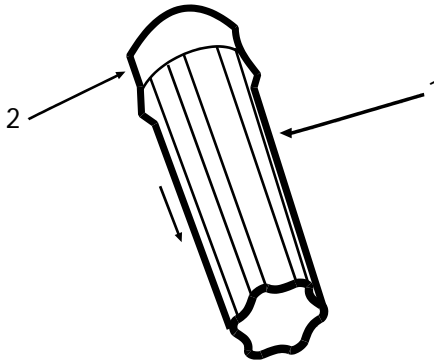
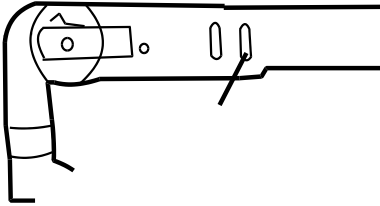

fig. 11 Autoclavable adjusting handle
fig.12 Adjusting the arm tension for SL300M and SL300MB
Lighting field magnitude can be adjustable by turning the autoclavable adjusting handle (fig. 11, item 1).
- To remove the handle (fig.11, item 1), press the lock button (fig.11, item 2) and while holding it down, pull the handle downwards.
- To install the handle slide the handle (fig.11, item 1) onto the guide until the latch locks in place.
Light-head positioning is done using the autoclavable adjusting handle (fig.11 item 1). Lamp height is adjusted by moving the suspension arm (fig.12 and 13).